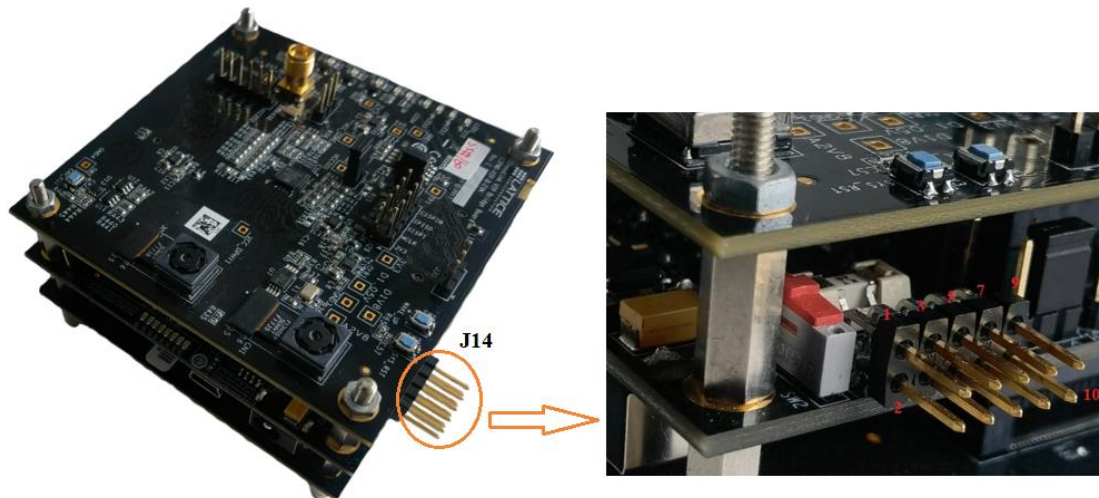

Figure 7.1. J14 Pin on ECP5 Video Processor Board
2. Connect Lattice HW-USBN-2B cable with J14 of the ECP5 Video Processor Board, as shown in Figure 7.1. Refer to Table 7.1 for the pin connection details between the HW-USBN-2B cable and J14.